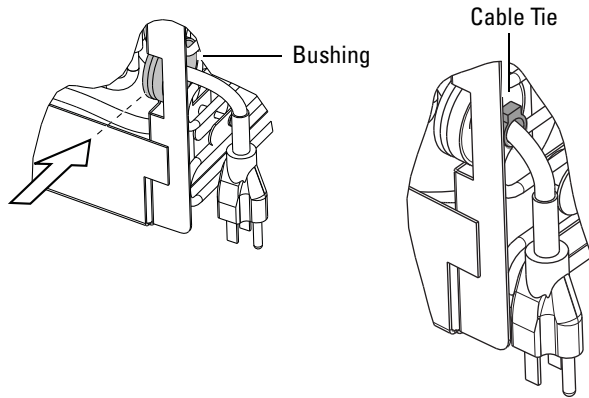

Figure 35: Secure AC Power Cord (Full length of line cord not depicted)
3. Route the line cord through the refrigeration module and secure it in place with the bushing. Hold the line cord taut to remove any slack, and attach a cable tie 489-0110-00 (Figure 35).